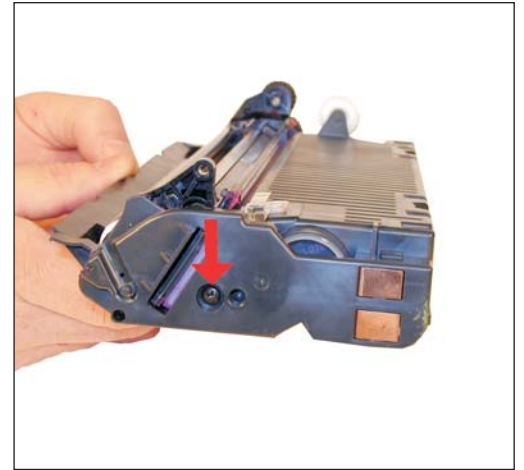

Figure 54
29) On the toner supply hopper, remove the screw on the left (non-gear) side end cap. See Figure 54